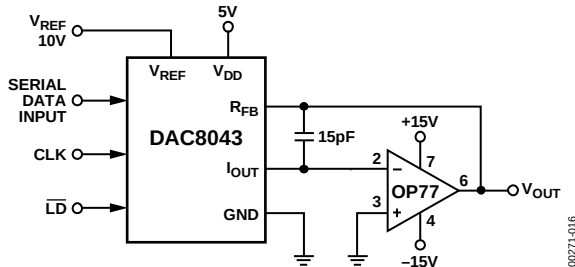
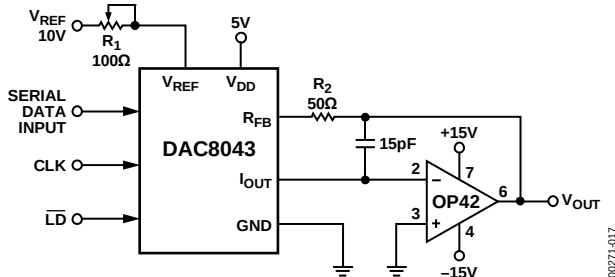
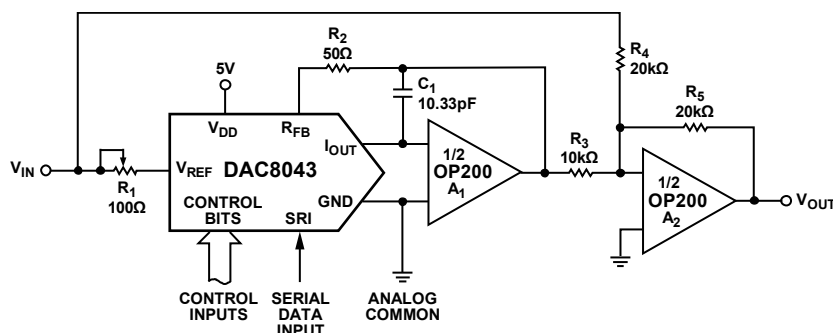

Figure 16. Unipolar Operation with High Accuracy Op Amp (2-Quadrant)
Figure 17. Unipolar Operation with Fast Op Amp and Gain Error Trimming (2-Quadrant)
Figure 19. Bipolar Operation (4-Quadrant, Offset Binary)
1. Phase compensation (see Figure 16 and Figure 17).
In most applications, linearity depends upon the potential of the I_{OUT} and GND pins being equal to each other. In most applications, the DAC is connected to an external op amp with its noninverting input tied to ground (see Figure 16 and Figure 17). The amplifier selected should have a low input bias current and low drift over temperature. The amplifier's input offset voltage should be nulled to less than 200 μ V (less than 10% of 1 LSB).
The circuits shown in Figure 16 and Figure 17 may be used with an ac or dc reference voltage. The output of the circuit ranges between 0 V and approximately $-V_{REF}$ (4095/4096), depending upon the digital input code. The relationship between the digital input and the analog output is shown in Table 6. The limiting parameters for the V_{REF} range are the maximum input voltage range of the op amp or ± 25 V, whichever is lowest.
Gain error may be trimmed by adjusting R_1 , as shown in Figure 17. The DAC register must first be loaded with all 1s. R_1 may then be adjusted until $V_{OUT} = -V_{REF}$ (4095/4096). In the case of an adjustable V_{REF} , R_1 and R_2 may be omitted, with V_{REF} adjusted to yield the desired full-scale output.
¹ Nominal full scale for Figure 16 and Figure 17 circuits is given by
² Nominal LSB magnitude for Figure 16 and Figure 17 circuits is given by
Figure 19 details a suggested circuit for bipolar, or offset binary, operation. Table 7 shows the digital input to analog output relationship. The circuit uses offset binary coding. Twos complement code can be converted to offset binary by software inversion of the MSB or by the addition of an external inverter to the MSB input.
Digital Input MSB LSB	Nominal Analog Output (V _{OUT} as Shown in Figure 19)
¹ Nominal full scale for Figure 19 circuits is given by
² Nominal LSB magnitude for Figure 19 circuits is given by
The transfer function for the DAC8043 connected in the multiplying mode, as shown in Figure 16, Figure 17, and Figure 19, is